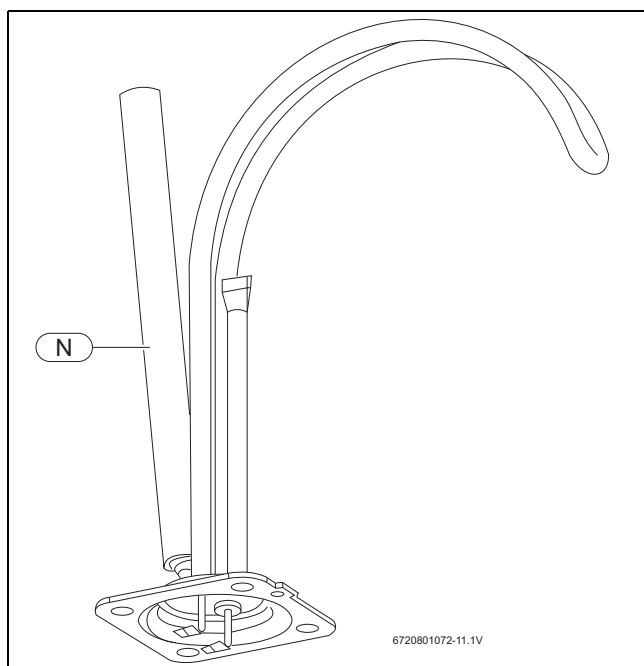

Fig. 12
The purpose of the anode rod (Fig. 12, [N]) is to protect the tank against corrosion. It is critical that the anode rod be inspected once a year to determine whether it requires replacement. To access the anode rod, the heating element must be removed (see Section 5.4 Removing the heating element). Upon inspection, the anode rod surface should
- ▶ Remove and replace the anode rod (Fig. 12, [N]).